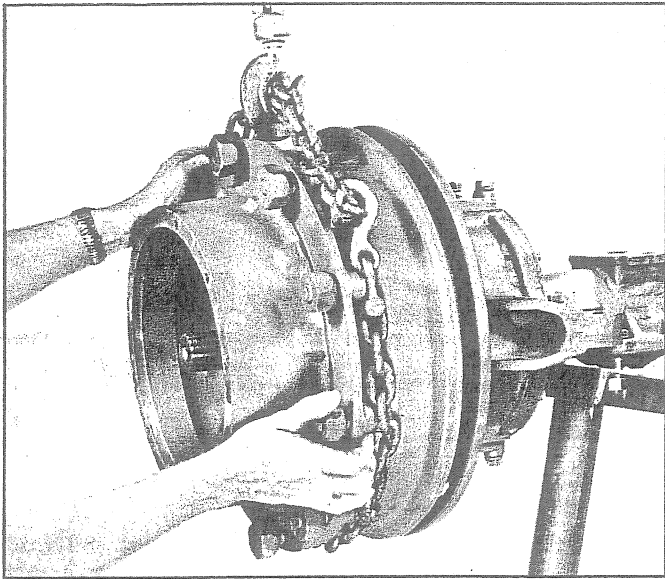

Fig. 99 - Installing Brake Drum and Hub Assembly
18. Support hub and brake drum assembly with a suitable hoist, then work hub and drum into position as shown in Fig. 99, until the inner bearing is over the spindle and drum is over the brake linings.